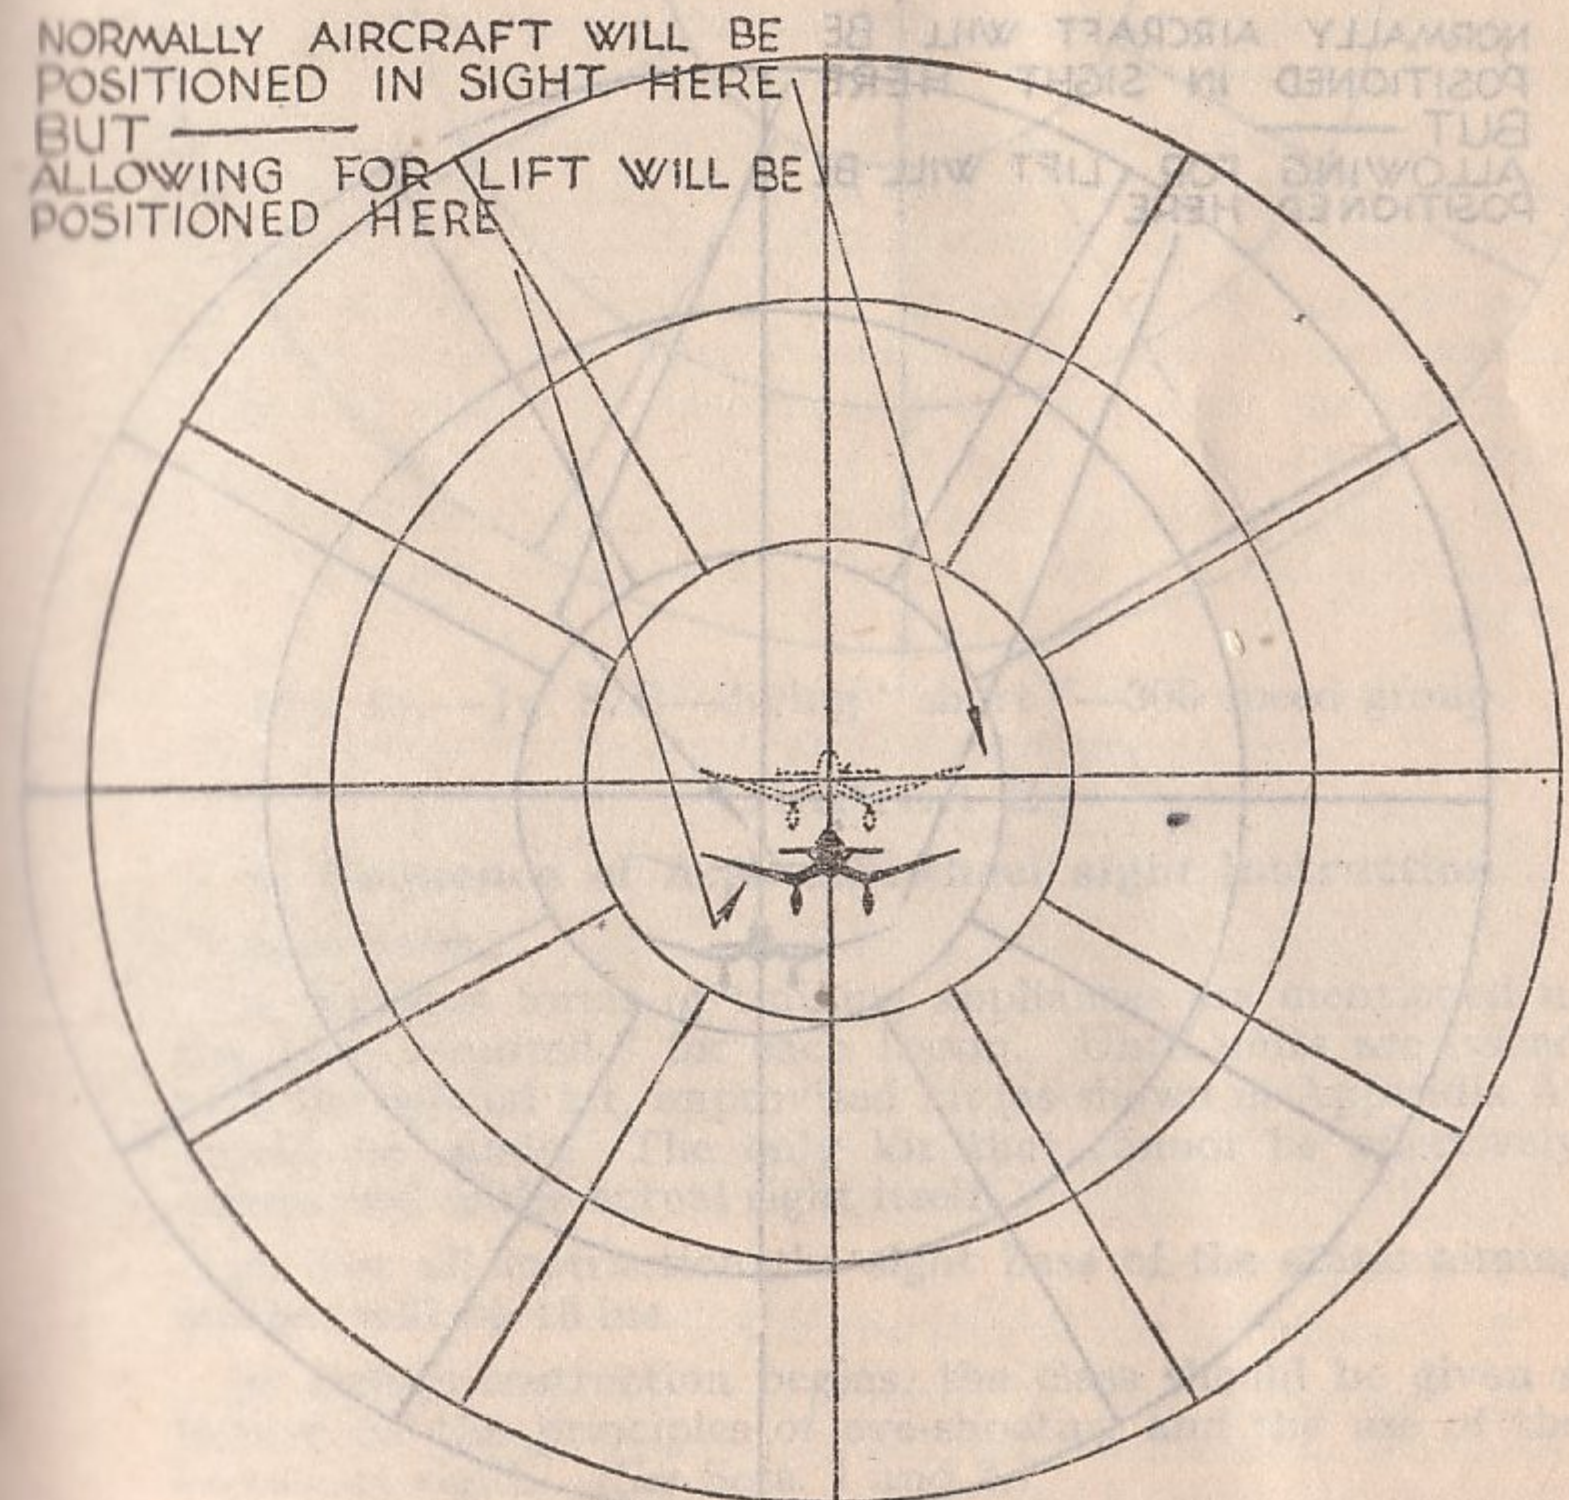

FIG. 12.—Ju. 87B—diving "head-on"—300 speed group.
(a) *Diving directly at the gun position*—a "head-on" view. (See Fig. 12.)
5. Figs. 12, 13 and 14 illustrate the method of applying this extra allowance for the Ju. 87B. The position of the tail plane in relation to the fuselage should be noted, since it is a useful guide in the case of this aircraft:—